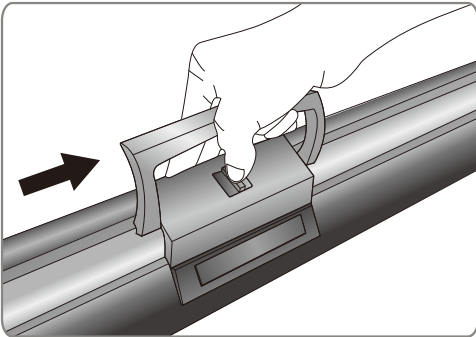

Figure 3
- Pull up the handle while using the thumb to release the tube lock as arrow indicates (Figure 3).